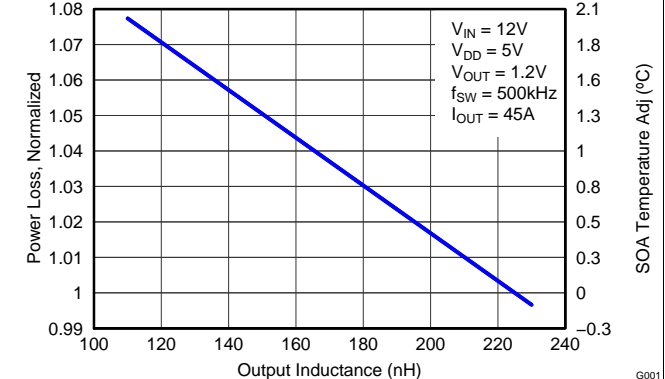

Figure 9. Normalized Power Loss vs Output Inductance
- Normalized Power Loss for output inductor ≈ 1.02 (Figure 9)
- SOA adjustment for output inductor $\approx 0.4^\circ\text{C}$ (Figure 9)